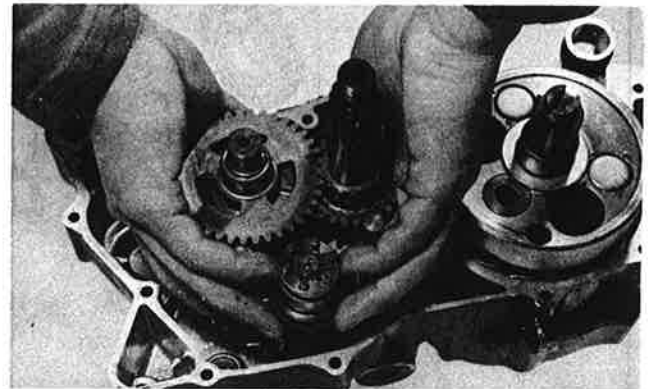

Fig. 3-4-2
1. Paying particular attention to the parts illustration, assemble the transmission shafts, shift cam, and shift forks and guide bars in your hand. **INSTALL CLUTCH PUSH ROD IN LEFT END OF MAIN AXLE.** (Fig. 3-4-2)
2. Install the assembly into the left case half. Tap into place with soft hammer until all shafts are fully seated. (Fig. 3-4-2)